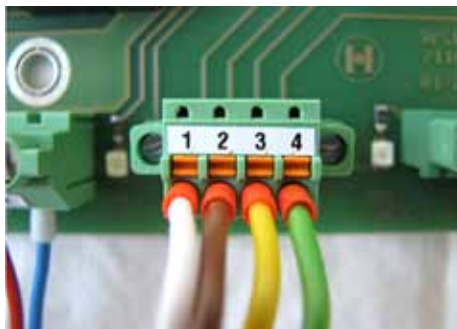

Fig. 78: Connecting the bus cable
1. Connect the conductors of the bus cable according to Fig. 78. For details refer to the respective terminal diagrams.